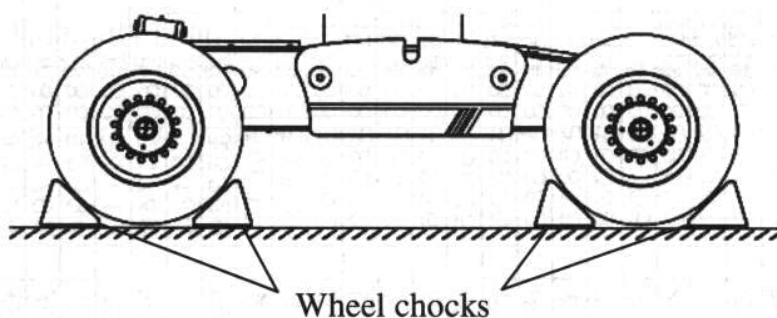

Fig. 6-1 Wheel chocks
- 2) Set up the wheel chocks in front and rear of all tires as shown in the Fig. 6-1.